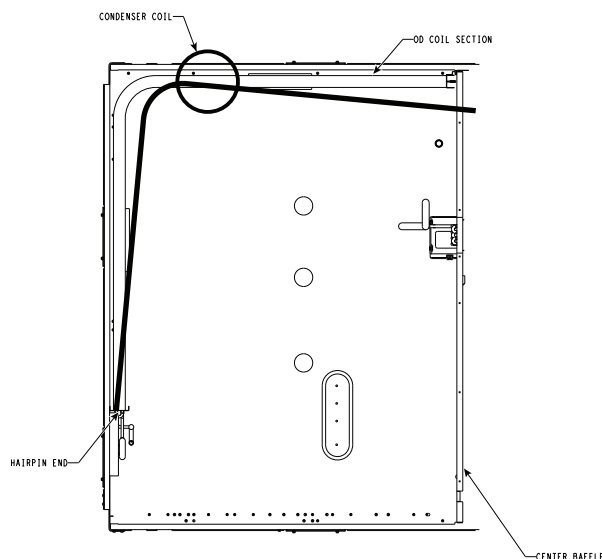

Fig. 20 — Separating Coil Sections (Top View)
8. Insert a spacer (field-supplied) between the tube sheets to hold the coils apart. See Fig. 20.